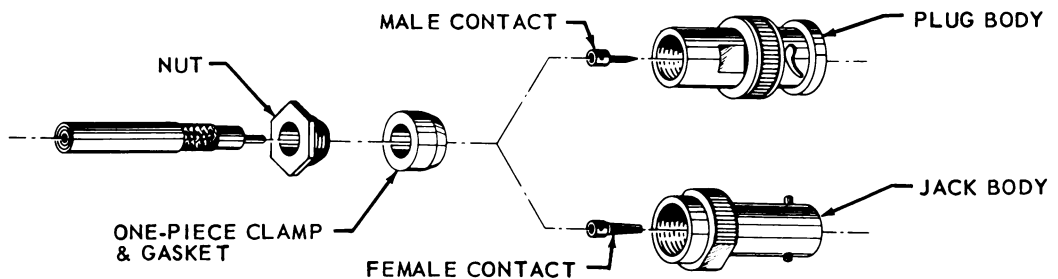

Figure 4-17. Modified Standard BNC Connectors - Exploded View
b. Modified Standard Version (see Figure 4-17 - similar to the standard version and using the same nut, but a one-piece clamp and gasket takes the place of the washer, gasket and clamp. Plug UG-88B/U and Jack UG-89A/U are typical of this version.
d. Disassemble nut and one-piece clamp and gasket from plug or jack body. See Figure 4-17.